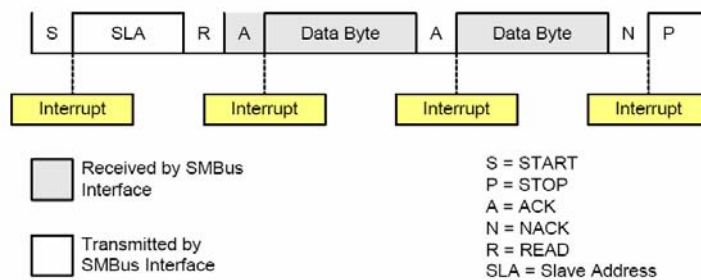
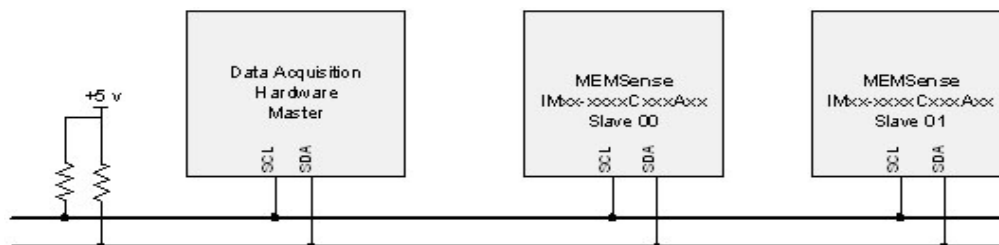

Figure 8 - Master Receiver Sequence
Figure 9 – I²C/SMBus connection diagram
The master device must parse out the initial message structure for the message size (X), read X bytes from the slave, NACK the final byte then send a stop. A master-receiver sequence is shown in Figure 8 (above). Slave device SCL and SDA ports are open drain. Pull-up resistors of 10k for 3.3 V and 15k for 5V are recommended on the SCL and SDA signals. Both lines are 5 V tolerant with a V_{IH} minimum of 2.1 V. Care must be taken to minimize line capacitance. For additional information on the nIMU I²C/SMBus connection see the SiLabs C8051F06x Data Sheet. A typical I²C/SMBus connection is shown in Figure 9 (below).